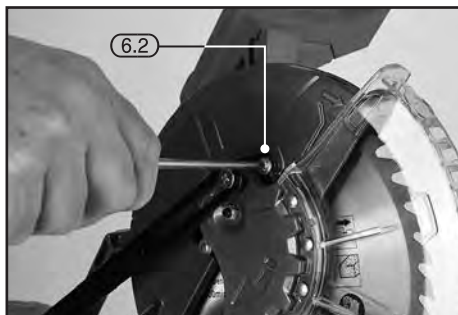

FIG.20
8.13 CHANGING THE BLADE – FIGS.20 – 25
Stock No.79889 (Fig.20):